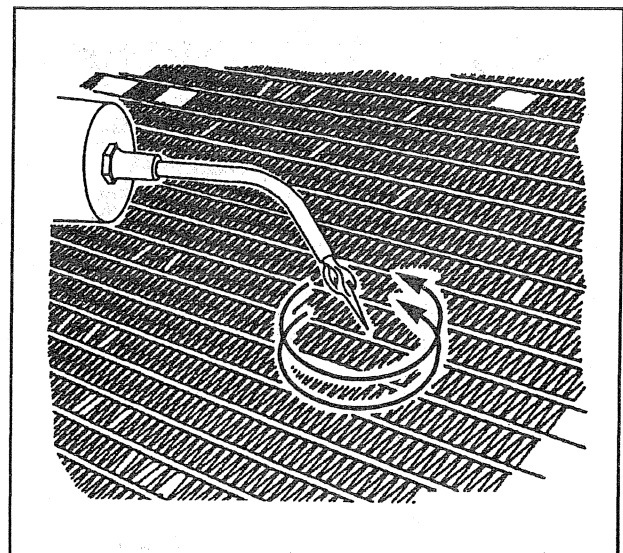

Figure 20—Heating the Repair Area
7. Heat the repair area with a heat gun or by moving the torch in a circular pattern (figure 20). Use a soft, small, blue flame (like a gas stove flame).